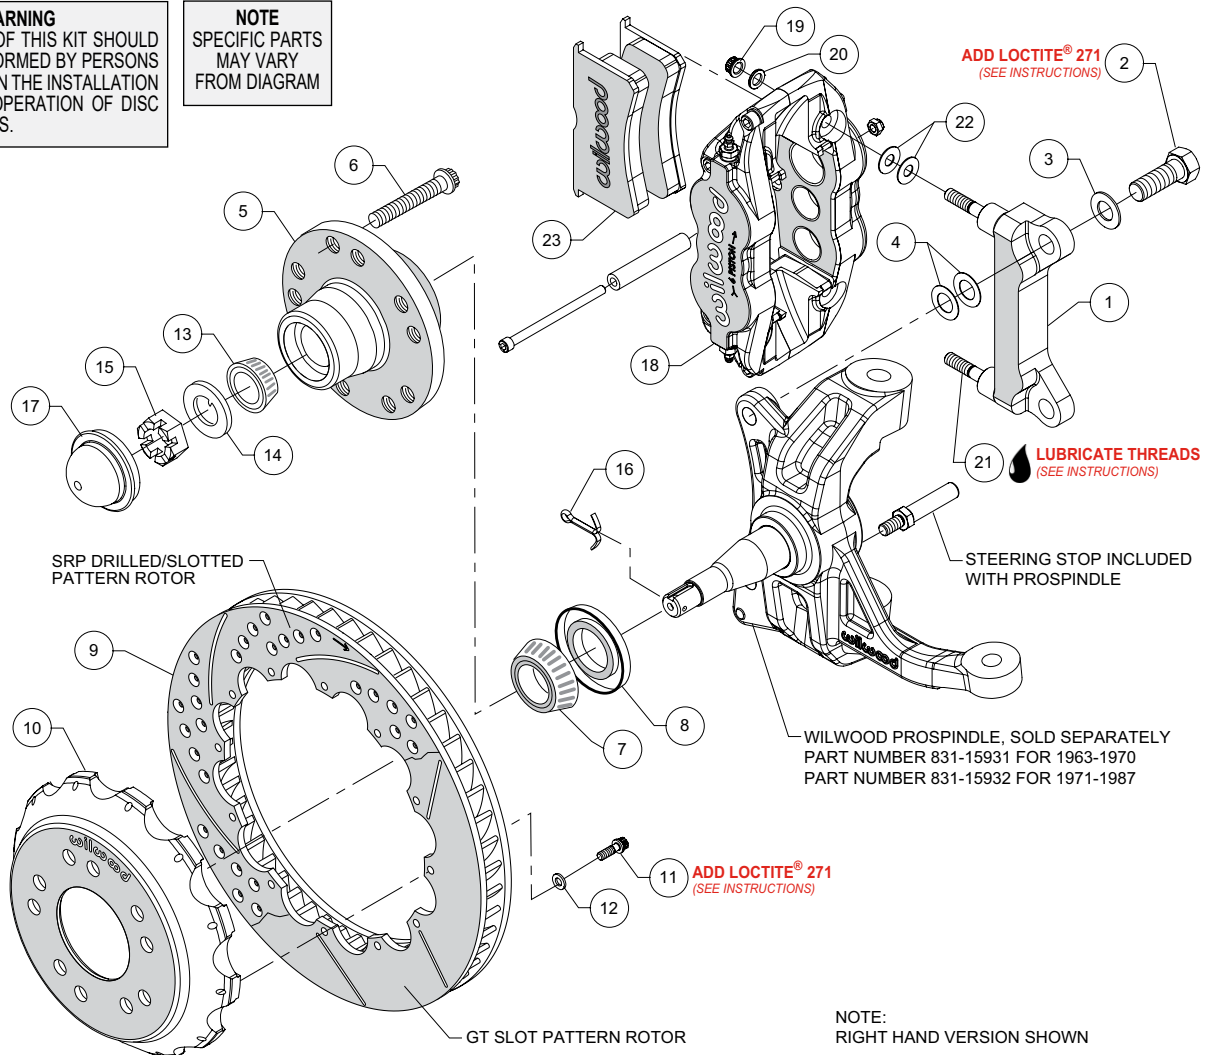
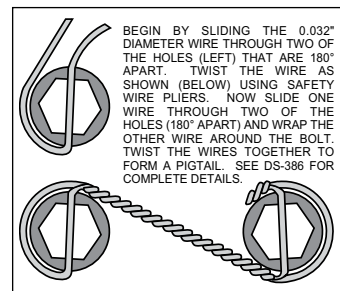

Figure 1. Typical Installation Configuration
Figure 3. Safety Wire Diagram
NOTE: Numbers in parenthesis refer to the parts list and Figure 1 on the preceding pages.
- Install the steering stop bolt (included with the ProSpindle) into the spindle as shown in Figure 1 and Photo 1. Torque to 25 ft-lbs.
- The caliper mount bracket (1) should initially be installed with clean, dry threads on the mounting bolts. Orient the bracket, as shown in Figure 1 and Photo 2, and install using bolts (2) and washers (3). Initially place two .024" thick shim (4) on each bolt between the bracket and spindle, Figure 1. Temporarily tighten the mounting bolts. **NOTE:** The bracket must fit squarely against the mount bosses on the spindle. Inspect for interference from casting irregularities, machining ridges, burrs, etc. Later, after the caliper alignment has been checked, the mount bolts will be secured using red *Loctite*® 271.
- Install wheel studs (6) into the hub (5), Photo 3. Torque to 77 ft-lb. **NOTE:** There are two five lug patterns in the hub (5 x 4.75 and 5 x 5.00). Ensure the correct hub stud pattern is being used to fit the wheel application.
- Pack the large inner bearing cone (7) with high temperature disc brake bearing grease (available from your local auto parts store) and install into the backside of the hub (5), Photo 4.
- Install the grease seal (8) by pressing into the backside of the hub (5), flush with the end of the hub, Photo 5.
- Pack the small outer bearing cone (13) with high temperature disc brake bearing grease and install into hub (5). Slide the hub assembly onto the spindle. Secure using spindle washer (14) and spindle nut (15), Photo 6. Adjust bearings per OEM specifications. Install a new cotter pin (16).
- Press the dust cap (17) into the hub (5). **NOTE:** Do not hammer center of cap. Install using outer flange only.
- Orient the rotor (9) and the hat (10) as shown in Figure 1 and Photo 7. Attach rotor to hat using bolts (11) and washers (12). Using an alternating sequence, apply red *Loctite*® 271 to the threads, and torque to 155 in-lbs. For an added measure of security, the bolts may be safety wired using standard 0.032 inch diameter stainless steel safety wire as shown in Figure 3. Refer to Wilwood's data sheet DS-386 (available at www.wilwood.com/Pdf/DataSheets/ds386.pdf) for complete safety wire installation instructions.
- Slide the hat/rotor assembly (10 and 9) onto the hub (5), Photo 8. **NOTE:** The hat must fit flush against the hub face or excessive rotor run out may result. Install three lug nuts (finger tight) to keep the hat/rotor assembly in place while continuing with the installation, Photo 8.
- NOTE:** This kit contains distinct right and left hand calipers that must be mounted in a specific direction, as described below. Lubricate the caliper mounting studs (21) with lightweight oil. Initially place two .035" thick shims (22) on each stud between
the caliper and the bracket, as shown in Figure 1 and Photo 9. Mount the caliper (18) onto the bracket (1) using lock nuts (19) and washers (20), Figure 1. Temporarily tighten the lock nuts. Ensure that the caliper is mounted so that the largest pistons are at the rotor exit end of the caliper, in relation to the direction of rotor rotation. View the rotor through the top opening of the caliper. The rotor should be centered in the caliper, Photo 10. If not, adjust by adding or subtracting shims (4) between the bracket and the spindle. Always use the same amount of shims on each of the two mounting bolts. Once the caliper alignment is correct, remove the bracket mounting bolts one at a time, apply red *Loctite*® 271 to the threads, and torque to 140 ft-lb.